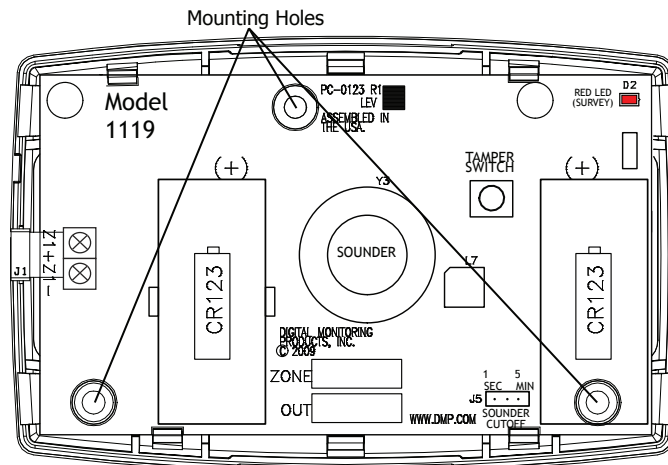

Figure 2: 1119 Wireless Sounder PCB
The 1119 provides a survey capability to allow one person to confirm communication with the receiver while the cover is removed. The 1119 PCB Red Survey LED (See Figure 2) turns on whenever data is sent to the receiver then immediately turns off when the receiver acknowledgement is received. Pressing the tamper switch is a convenient way to send data to the receiver to confirm operation. When the 1119 does not receive an acknowledgement from the receiver the survey LED remains on for about 8 seconds to let you know communication is not established. Communication is also faulty when the LED flashes multiple times in quick succession. Relocate the 1119 or receiver until the LED immediately turns off indicating the 1119 and receiver are communicating properly. Proper communication between the 1119 and receiver is verified when for each press or release of the tamper switch, the LED blinks immediately on and immediately off.
Mount the 1119 on a flat wall or single-gang box away from large metal objects. See Figure 2 for mounting hole locations.
3. Place the 3.0V Lithium batteries in the holders and press into place. See Figure 2 for battery location.